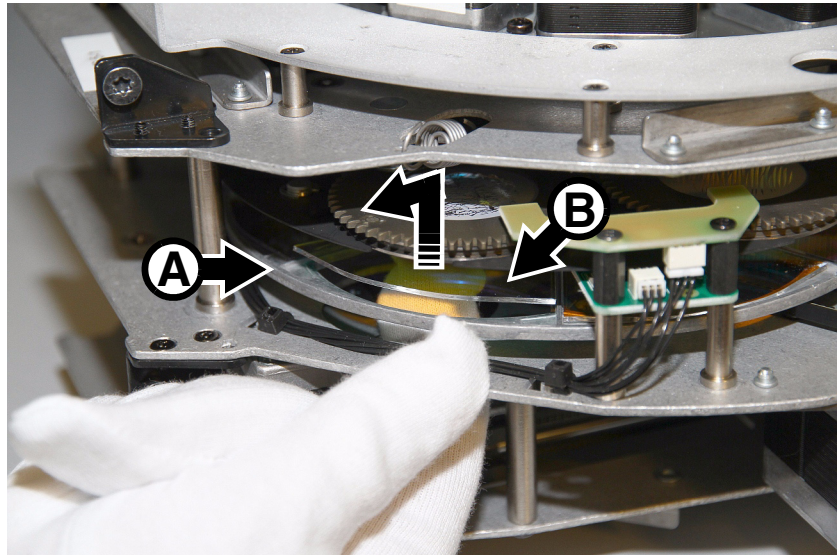

Figure 20: Color filter removal
4. See Figure 20. Turn the color wheel **A** until the filter **B** that you want to replace is accessible. Put on clean cotton gloves. Push the outer edge of the filter up and away from the color wheel slightly to release it, then pull the filter carefully out of its clip and remove it. Store the filter resting on a clean, soft surface or in a filter rack.